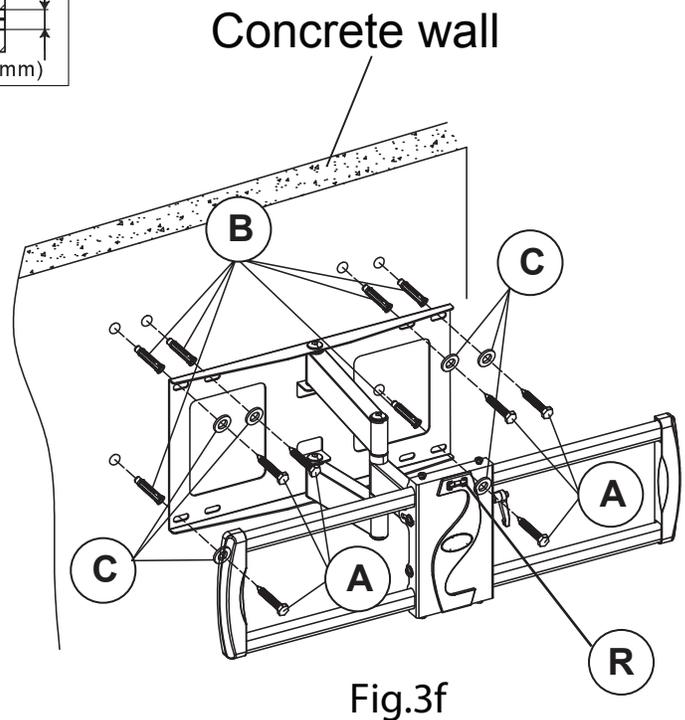

Fig.3f
3. Insert a **Wall Anchor (B)** into each pre-drilled hole and lightly tap it with a hammer until the wall anchor is flush with the wall.
4. Use a wrench, the four **Long Bolts (A)**, and **Washers (C)** to attach the wall mount to the wall with the **Wall Anchors (B)** (Fig 3f).
5. Use the **Level (R)** placed on the front of the mounting plate to level the wall mount, repositioning as necessary, then securely tighten the bolts.